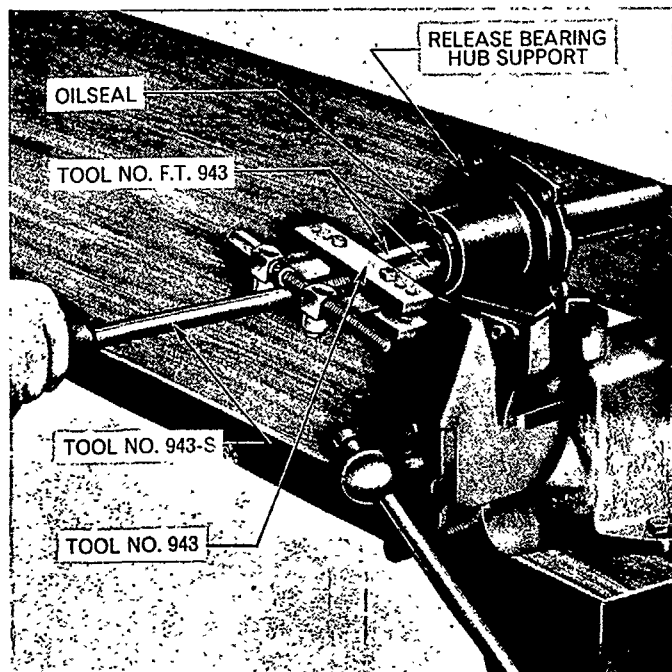

Figure 7
1. Inspect the main drive input shaft oil seal in the hub support for wear or damage. If necessary remove the seal using Tools Nos. 943, 943-S and F.T.943, Figure 7. Install a new seal using Tool No. 630-9 and a suitable driver.
- worn or damaged remove the seal using Tools Nos. 943, 943-S and F.T.943 in a similar manner to that shown in Figure 7.